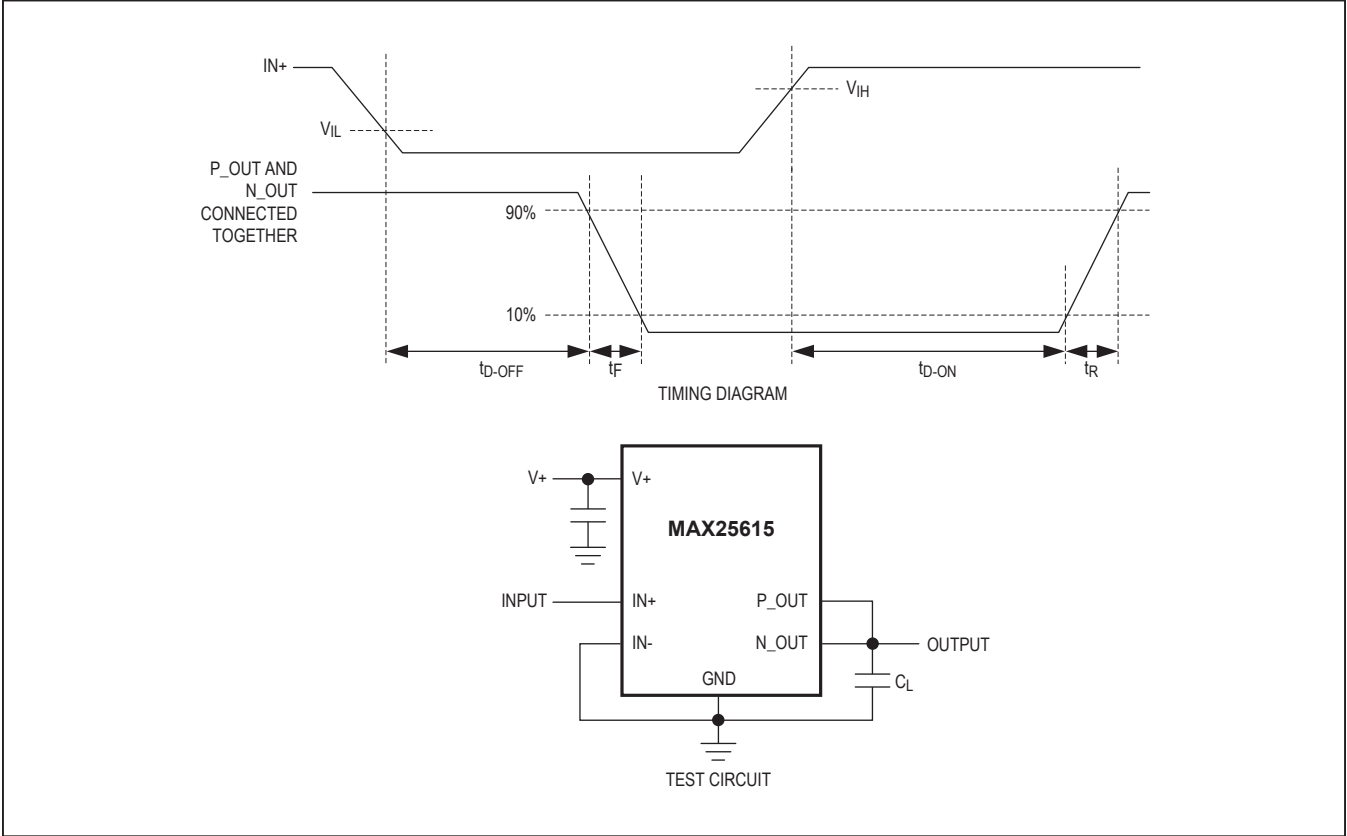

Figure 1. Timing Diagram and Test Circuit
(V+ = +12V, CL = 0F, TA = TJ = -40°C to +125°C, unless otherwise noted. Typical values are at TA = +25°C. see Figure 1.) (Note 3)
**Electrical Characteristics (continued)**(V+ = +12V, CL = 0F, TA = TJ = -40°C to +125°C, unless otherwise noted. Typical values are at TA = +25°C. see Figure 1.) (Note 3)
| SWITCHING CHARACTERISTICS FOR V+ = +12V (Figure 1)  |                    |                                                |                         |      |      |       |
| SWITCHING CHARACTERISTICS FOR V+ = +4.5V (Figure 1) |                    |                                                |                         |      |      |       |
( $C_L = 1000\text{pF}$ ,  $T_A = +25^\circ\text{C}$ , unless otherwise noted. See Figure 1.)
**Typical Operating Characteristics (continued)**(CL = 1000pF, TA = +25°C, unless otherwise noted. See Figure 1.)**INPUT VOLTAGE vs. OUTPUT VOLTAGE**